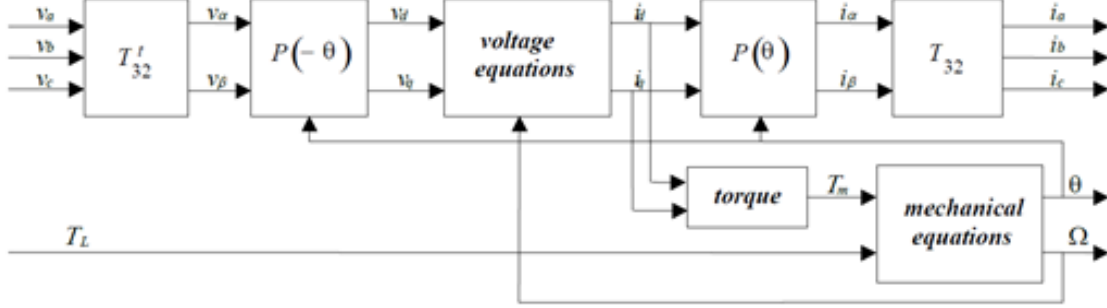

Figure 1: Park Model of PMSM
2. Implement the model shown in Fig. 1 using Simulink. For this, first we have to put all differential equations under state-space form $\dot{x} = (x, u)$. From Eqs. (1) and (3), there are four differential equations. Once they are built, each equation has to be numerically solved using the block “integrator” in Simulink. To complete the model, Park and alpha-beta transformations have to be implemented (see Fig. 1).